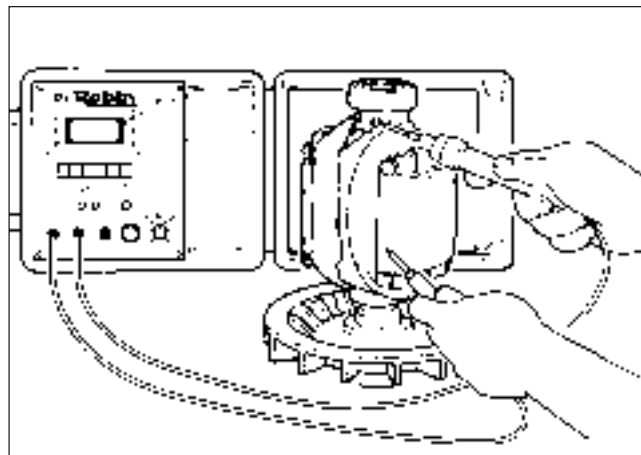

Fig. 11-6
(3) Measure the insulation across one of the soldered terminals of the rotor and the core. (Fig.11-6)